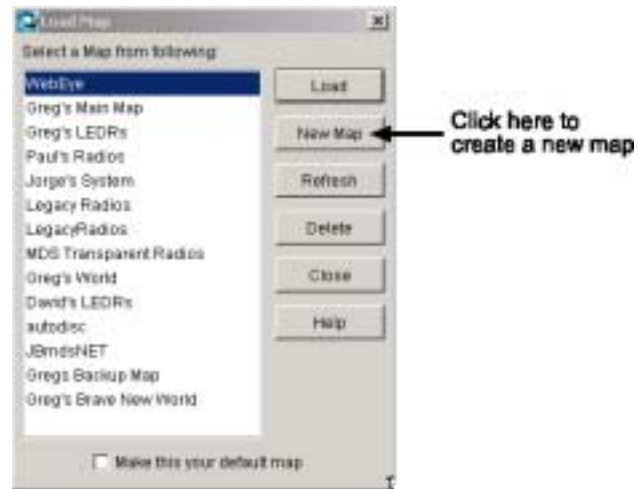

Figure 38. Load Map Screen
- a. Select **File>>Load** from the top menu bar. This brings the Load Map screen (Figure 38) to the forefront.